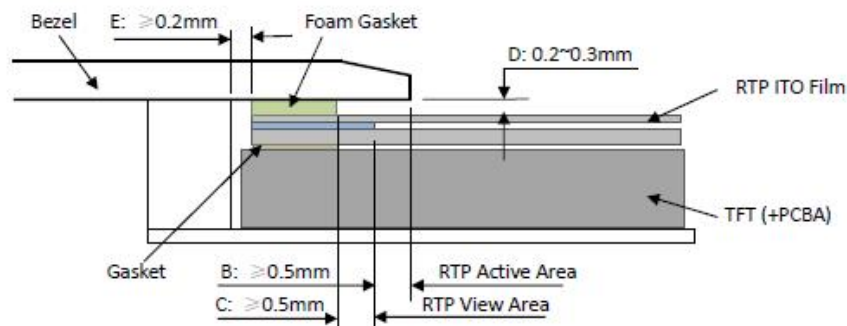

Figure 4
- It should bezel touching the RTP Active Area (A.A.) to prevent abnormal touch. It should left gap  $D=0.2\sim0.3\text{mm}$  in between. (Figure 4)
- Outer bezel design should take care about the area outside the A.A. Those areas contain circuit wires which is having different thickness. Touching those areas could de-form the ITO film. As a result bezel the ITO film be damaged and shorten its lifetime. It is suggested to protect those areas with gasket (between the bezel and RTP). The suggested figures are  $B\geq 0.50\text{mm}$ ;  $C\geq 0.50\text{mm}$ . (Figure 4)
- The bezel side wall should keep space  $E=0.2\sim0.3\text{mm}$  from the RTP. (Figure 4)
- 为避免面框直接压在动作区 (A. A.) 上造成误动作，面框与电阻触摸屏 (RTP) 之间应留有一定的空隙  $D=0.2\sim0.3\text{mm}$  之间。（附图 4）
- 设计面框时，要注意用面框保护触摸屏四周的非保证操作区域，因为布线区域在此处形成一台阶，在此区域附近操作时 ITO Film 变形较大，容易导致 ITO 损坏而降低寿命。为保护 RTP 和避免误操作，在 RTP 与面框之间垫缓冲物（Gasket），我们建议设计面框应覆盖动作区的边缘，面框边缘到 V. A. 区的距离  $B\geq 0.50\text{mm}$ ；垫圈内边缘到 V. A. 区的距离  $C\geq 0.50\text{mm}$ 。（附图 4）
- 在设计面框与 RTP 组装时，应考虑到面框内侧与 RTP 外侧的间距  $E\geq 0.2\text{mm}$ 。（附图 4）